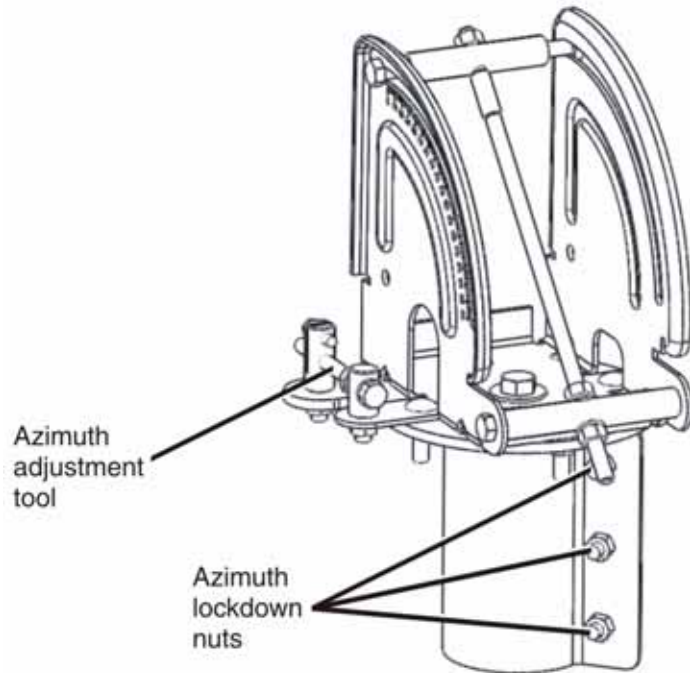

Figure 36: Azimuth adjustment components
1. Ensure that the three 5/16-inch azimuth lockdown nuts at the bottom of the Az/El canister (shown in Figure 36) are loose enough that the antenna assembly rotates freely on the mast.
4. Using a 1/2-inch wrench, rotate the azimuth adjustment bolt shown in Figure 36 in either direction to achieve the desired azimuth angle.